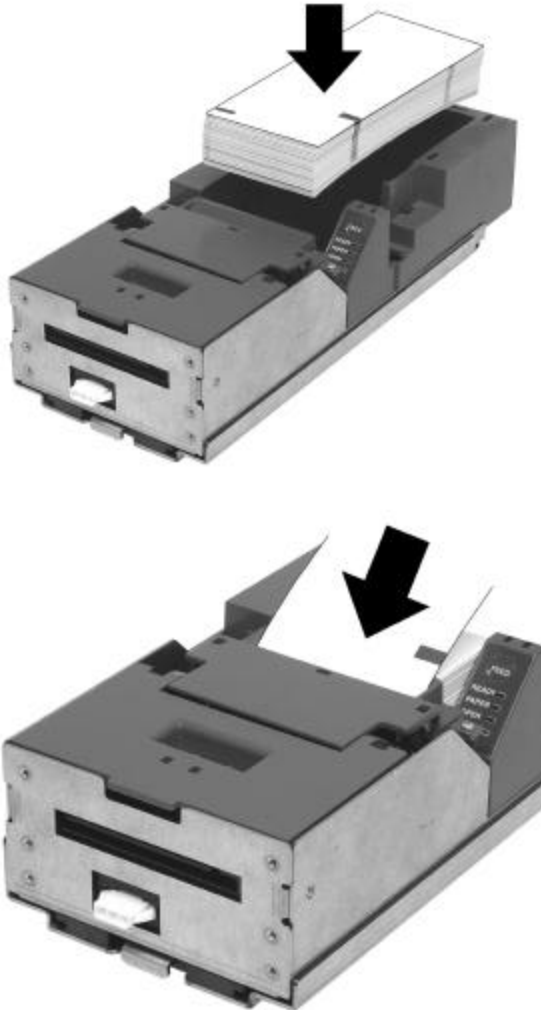

Figure 16. Ticket Loading and Ticket Feed Mechanism
- Load tickets into the ticket supply tray, making sure that the Black Dot is positioned as shown in Figure 16.